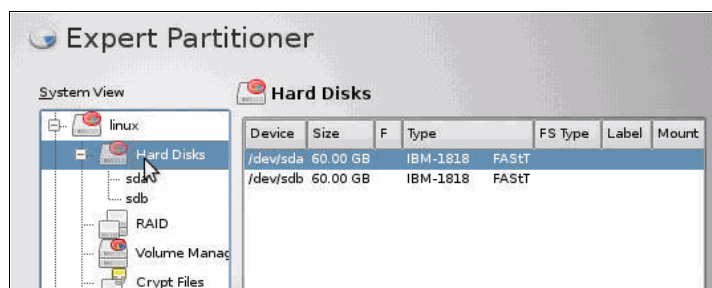

Figure 2-96 Selection of Expert Partitioner
3. In the Expert Partitioner panel, we select the **Hard Disks** icon as shown in Figure 2-96.